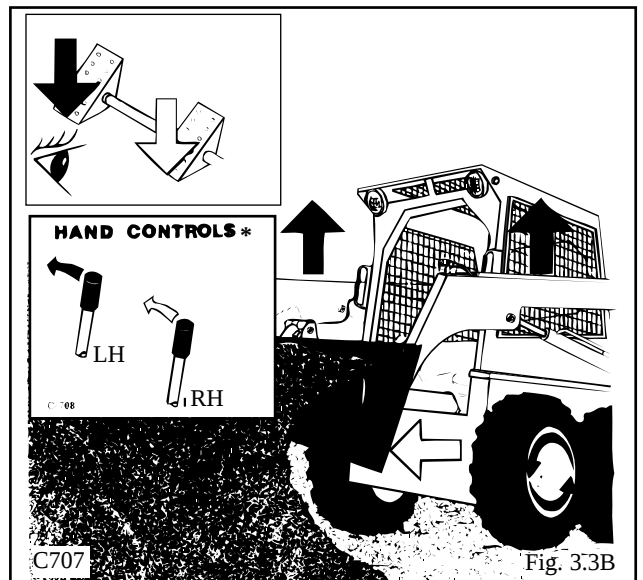

Fig. 3.3B
3. Keep the full length of the tracks in contact with the ground for best traction. (Fig. 3.3B)
Drive the loader forward slowly. As the bucket begins to fill push on the heel of the bucket pedal to raise the front of the bucket (Fig. 3.3B) and push on the heel of the lift arm pedal to raise the lift arms. When the bucket is full back away from the pile. For hand control units, move the R.H. control lever towards you to raise the front of the bucket, and move the L.H. control lever away from you to raise the lift arms (Fig. 3.3B). When the bucket is full back away from the pile.